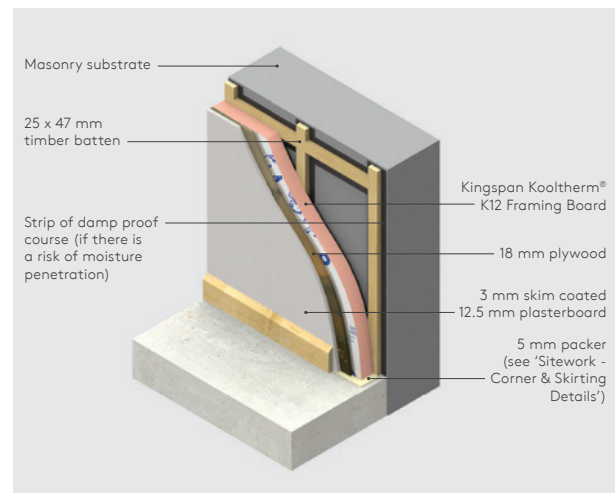

Figure 4 - Mechanically Fixed Construction Suitable for Heavy Internal Fittings
- Alternatively, where there are to be extensive heavy internal fittings, the construction outlined in Figure 4 can be adopted.